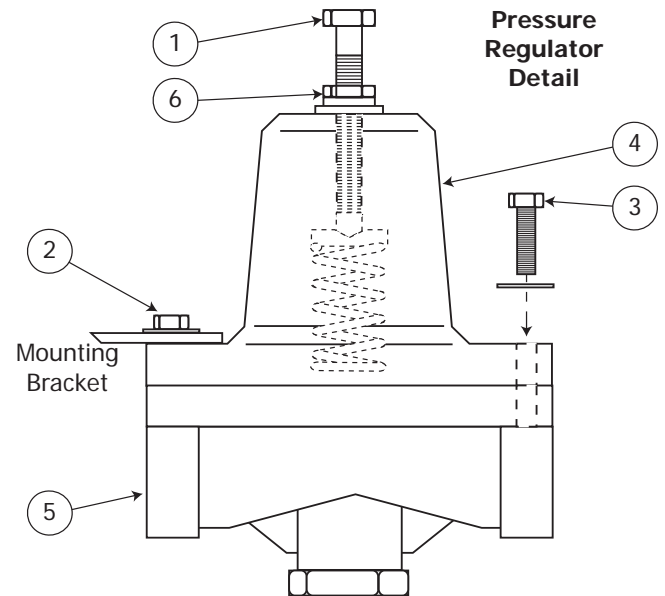

Figure 5. Water Pressure Regulator
(Figure 5 except as indicated)
- Back out the adjusting screw (Figure 5, 1) all the way and remove it from the regulator.